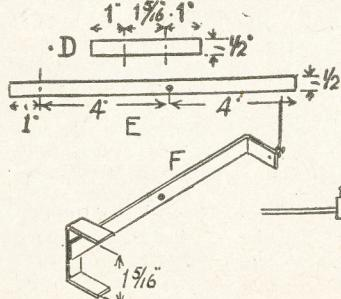

Fig. 2—Details of metal rocker
A rocker (C) is now required; this is set in motion by the rotary windvane and actuates the figure's arm. The rocker is composed of two pieces of stout brass rod, $\frac{1}{8}$ in. wide, illustrated at (D) and (E) in Fig. 2. Cut these to length. Bend (D) across the dotted lines to make the shape shown at (F). Part (E) has also the short piece at the